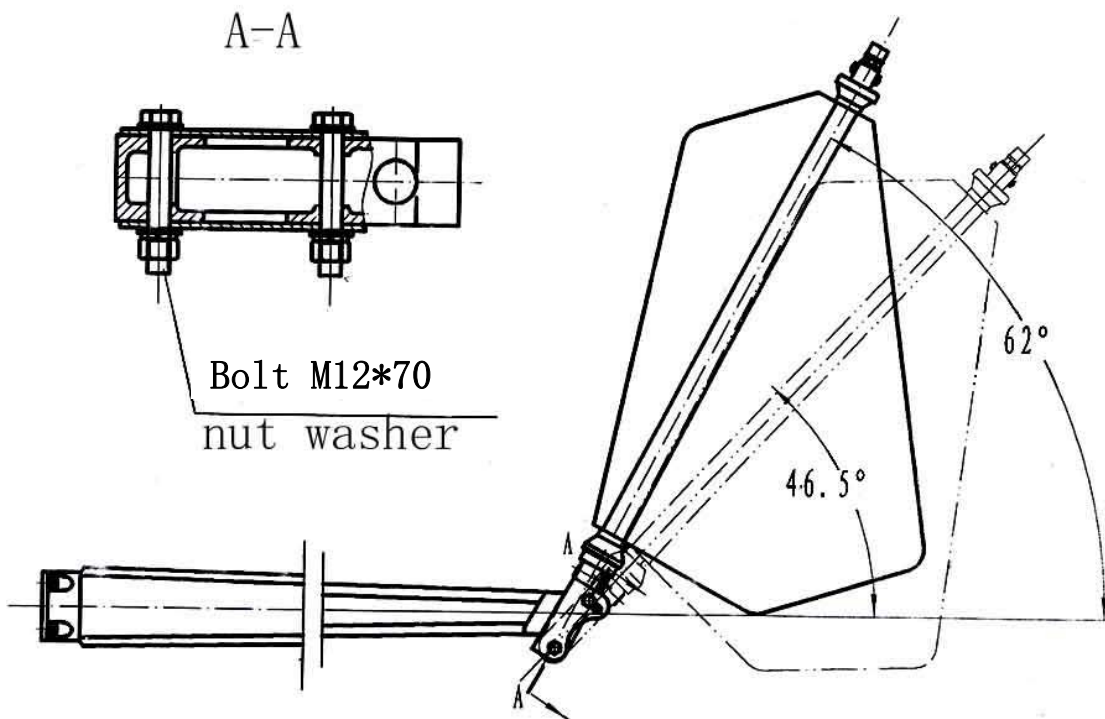

Fig. 6 Tail Vane
- 4.7 Insert the tie-in of tail vane into the trough shape fastener of the tail rod; insert M12 \times 70 screws into the 2- $\varnothing 12$ holes correctly; put in washer12, spring washer 12 and M12 self-locked nuts. Adjust the angle between tail rod and the horizontal according to the local wind resources and electricity consumptions. Increasing the angle can reduce the running speed of the rotor; decreasing the angle can increase the rotating speed of the rotor. After adjusting, tighten the two self-locked nuts (See fig.6).